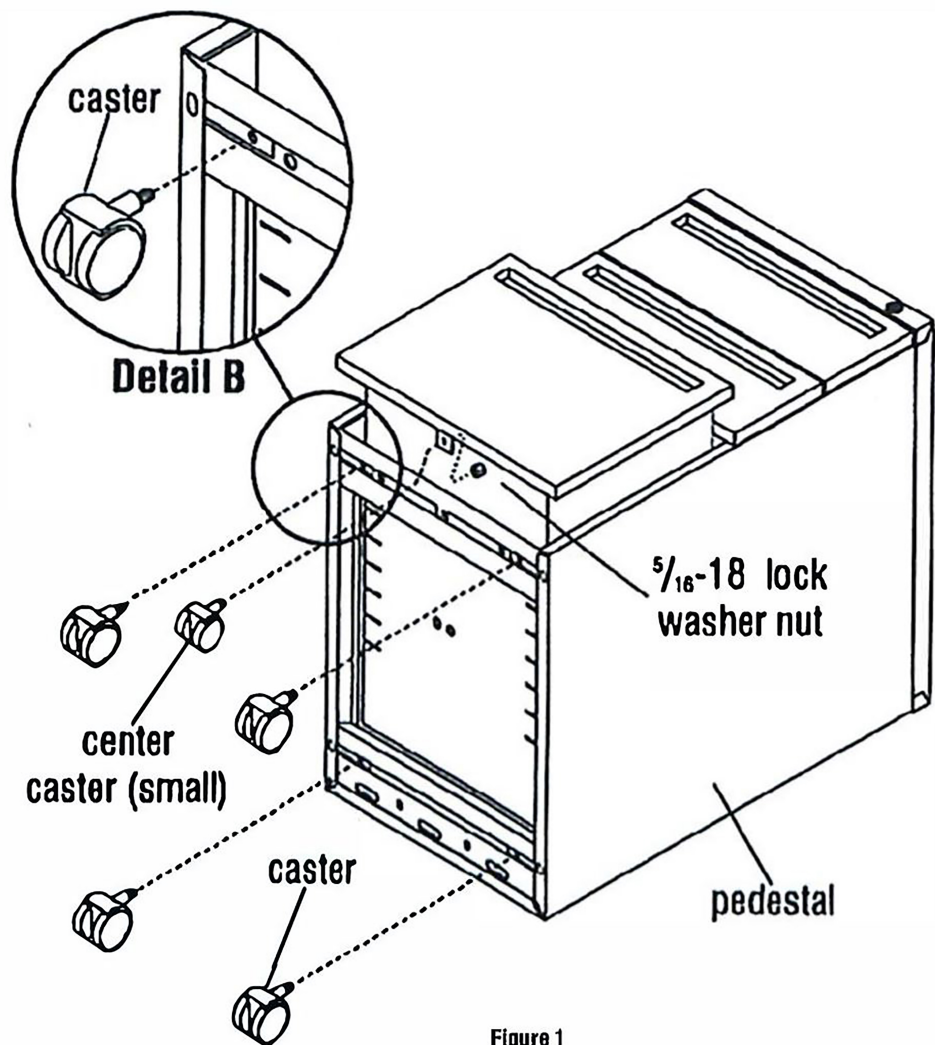

Figure 1
1. Thread the four larger casters into the inner-most weld-nuts at each corner of the pedestal base (Detail B). Position two casters with locking brakes at the front of the unit. Be sure to twist the caster shank in tight such that the shoulder of the shank is flush and tight to the weld-nut. (Fig. 1)
2. If applicable, extend the bottom drawer of the pedestal out to expose the center caster mount. Fasten the anti-tip caster to the drawer bracket and secure firmly in place with the  $\frac{5}{16}$ -18 lock washer nut. (Fig. 1)